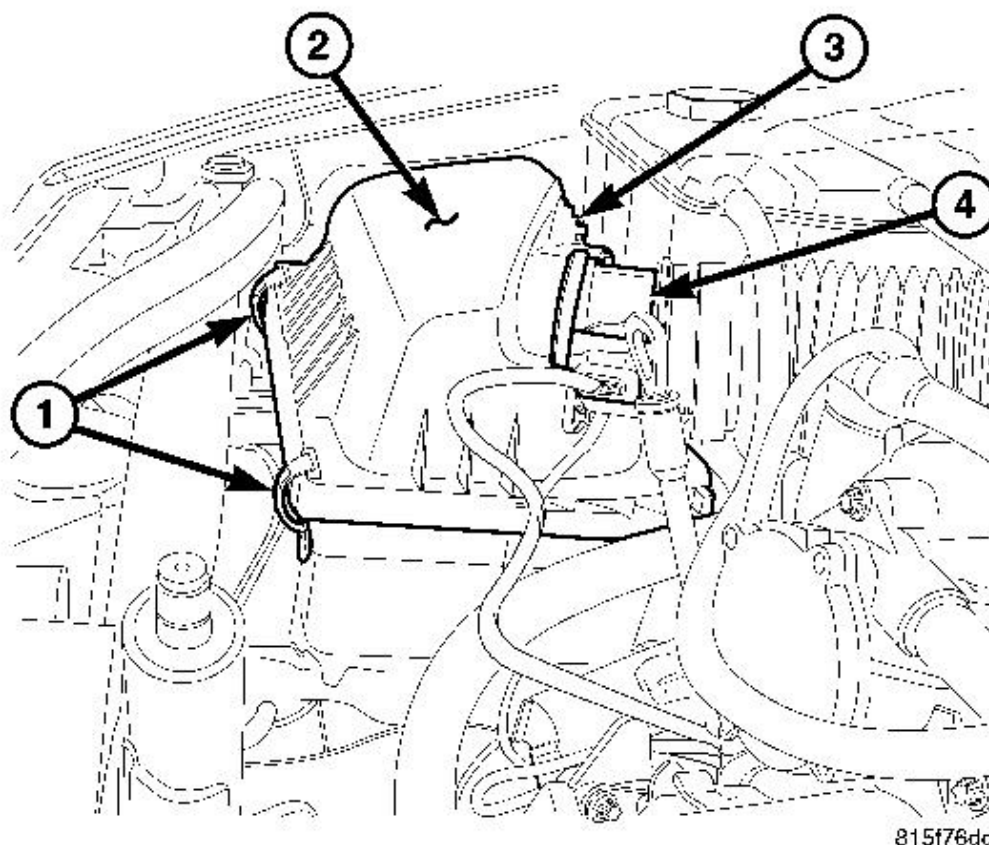

Fig. 51: Air Cleaner Cover And Components
2. Disconnect the mass air flow (MAF) (4) and air pressure sensor (3) electrical connectors.
3. Pry up 2 spring clips (1) from front of housing cover (2), (spring clips retain cover to housing). See **Fig. 51.**
4. Release housing cover (2) from locating tabs located on rear of housing, and lift cover.